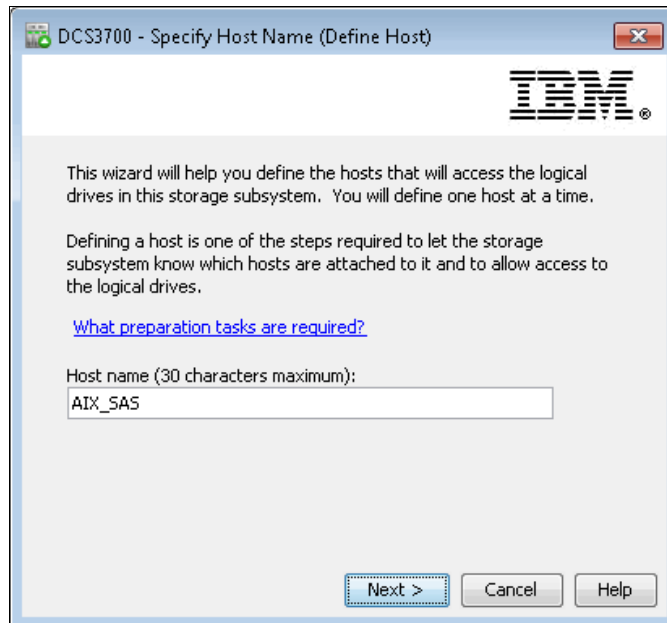

Figure 19-12 Defining a host name
4. Enter the name of host, as shown in Figure 19-12.